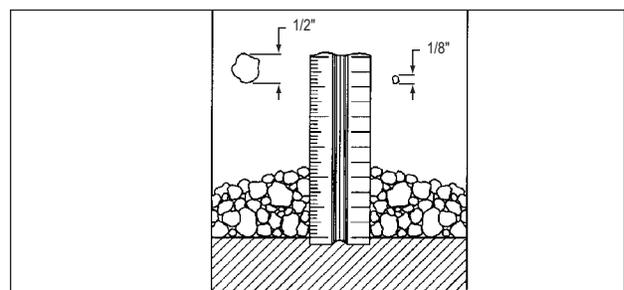

FIGURE 4-2
4.1.3.3. When using crushed stone, the material is to be a mix of angular particles, sizes between 1/8 inch and 1/2 inch. (See FIGURE 4-2.) The crushed stone must conform to the specifications of ASTM C-33, paragraph 9.1, sizes 7 or 8.